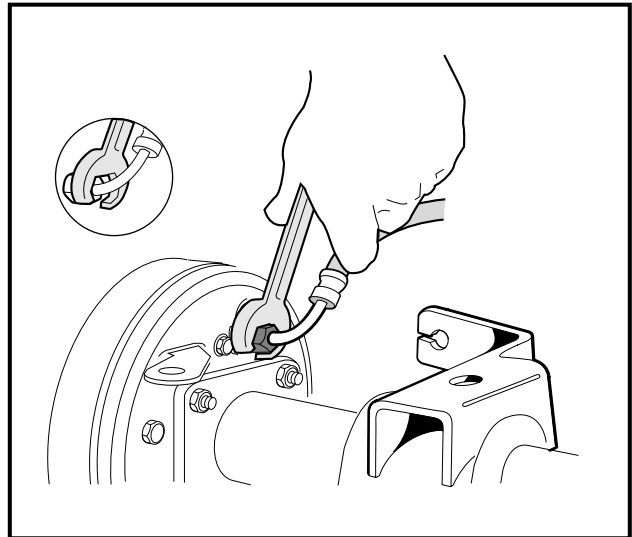

Figure 16-22 Rear Brake Hose
- 7.4. Use a 3/8-inch flare nut wrench and remove the brake hose from the rear brake cluster. To avoid spilling brake fluid, lift the hose above the brake cluster assembly (**Figure 16-22, Page 16-11**).